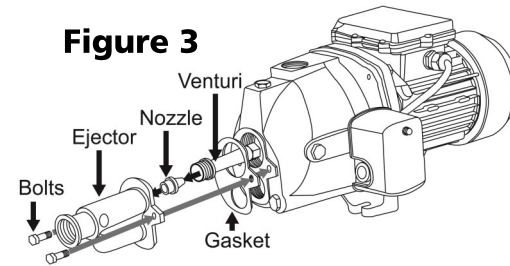

Figure 3
1. Install the ejector kit to the pump housing as shown in Figure 3.